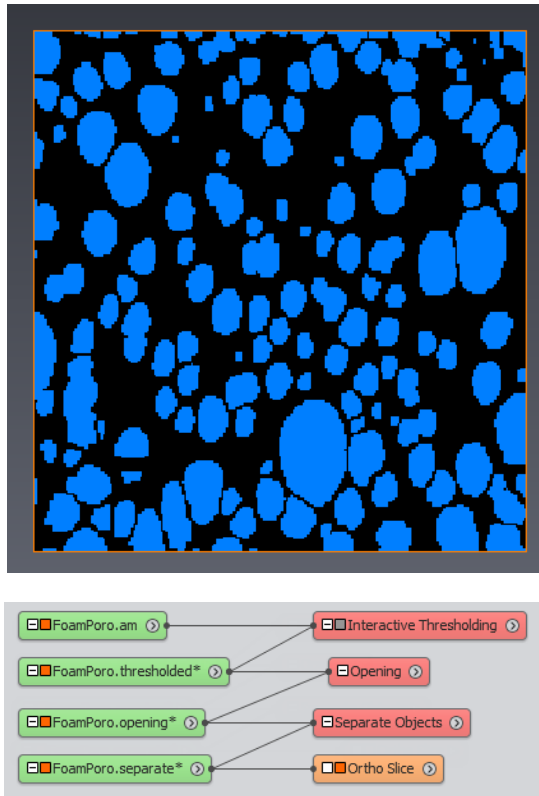

Figure 6.48: Separated pores
- Connect the *Ortho Slice* to the output `FoamPoro.separate` (see Figure 6.48).